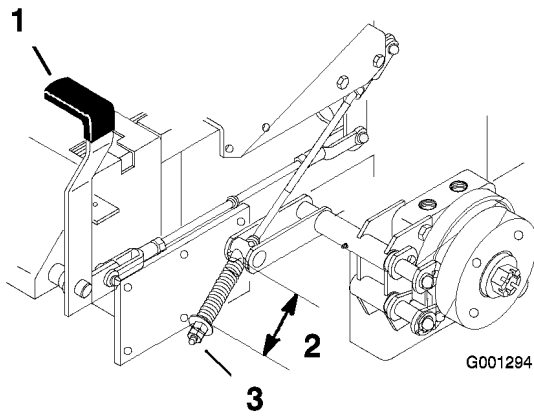

Figure 55
2. Measure the length of the spring. Measurement should be 2-1/2 inch (64 mm) between the washers (Figure 55).
3. If adjustment is necessary, release the parking brake, loosen the jam nut below the spring and adjust the nut directly below the spring (Figure 55). Turn the nut until the correct measurement is obtained. Turn the nut clockwise to shorten spring length and turn counter-clockwise to lengthen the spring.